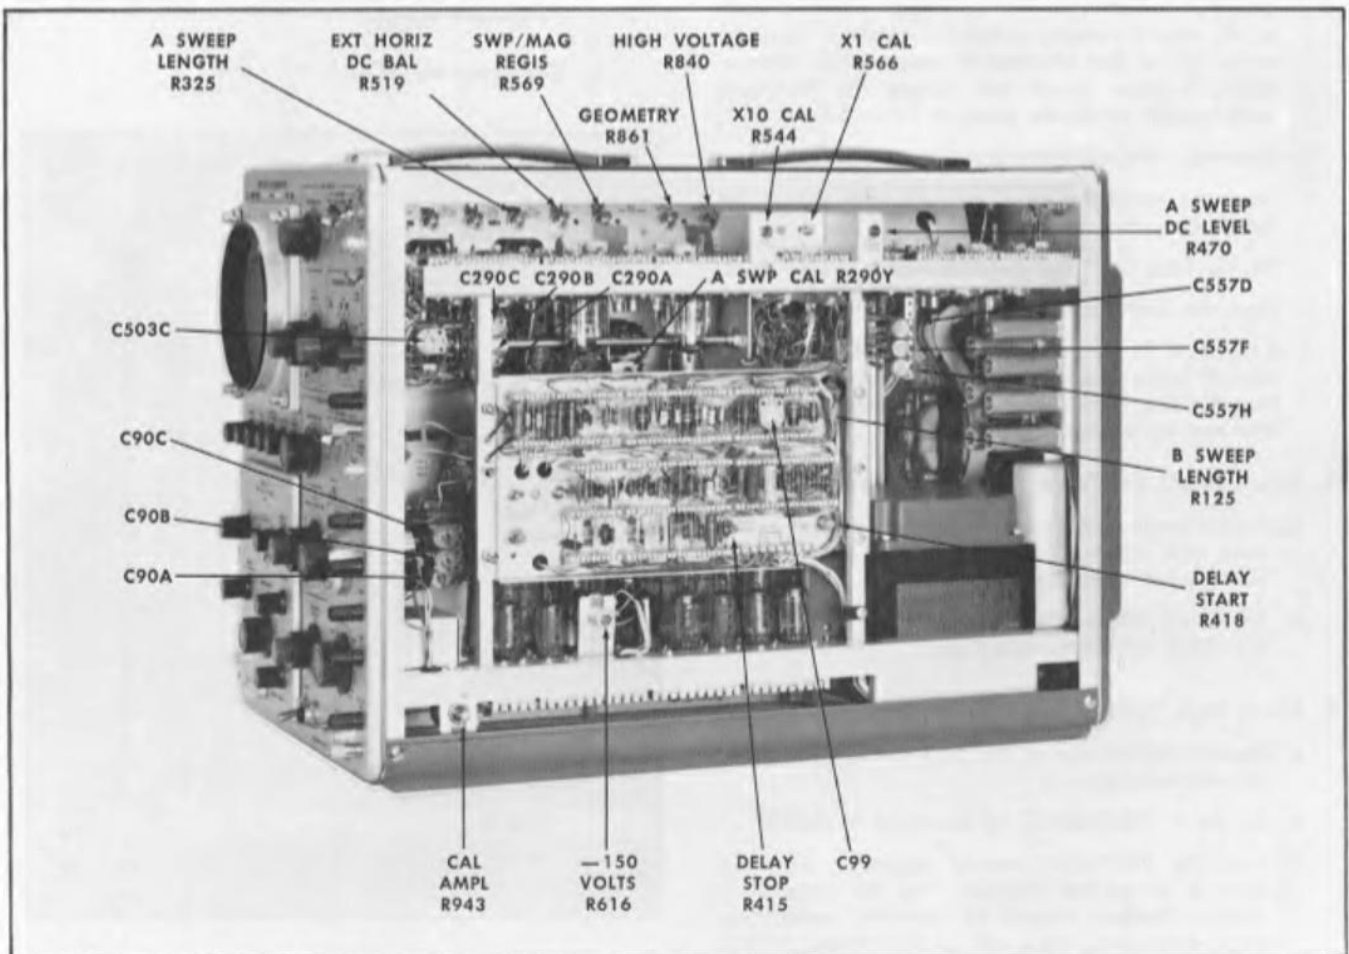

Fig. 5-2. Calibration adjustment locations.
c. If necessary, adjust -150 VOLTS R616 (see Fig. 5-2) so all power supply voltages are within tolerance.
- b. Adjust the HIGH VOLTAGE R840 (see Fig. 5-2) for a -1850 voltmeter indication.
- d. Adjust CAL AMPL R943 (see Fig. 5-2) for a voltmeter reading of exactly 100 volts.
- g. Adjust GEOMETRY R861 (see Fig. 5-2) for the straightest possible vertical marker-lines running parallel to